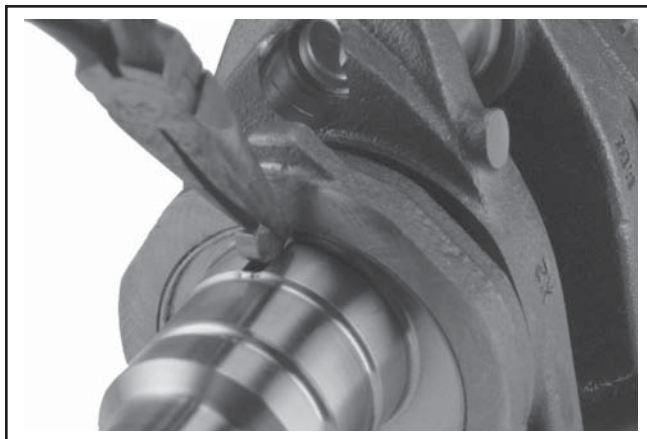

Figure 8-54. Removing Crank Gear Key.
1. Remove the crank gear from the crankshaft and carefully remove the key from the keyway. See Figure 8-54.